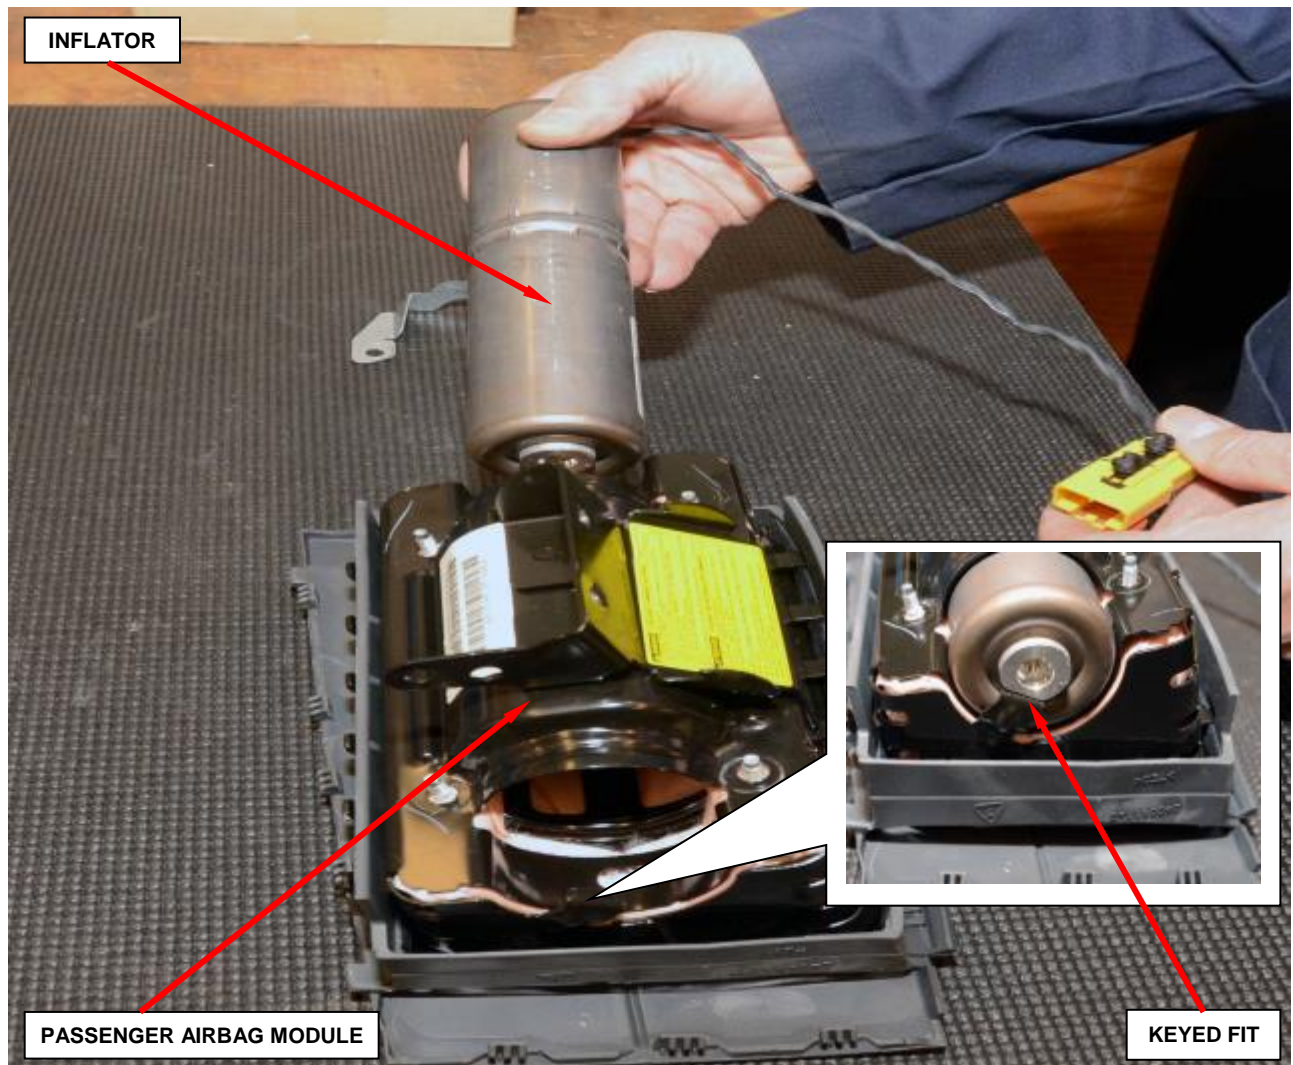

Figure 84 – Passenger Inflator Installation
g. Slide the **new** inflator into the passenger airbag module (Figure 84).
NOTE: The inflator is keyed to fit into the housing (Figure 84).